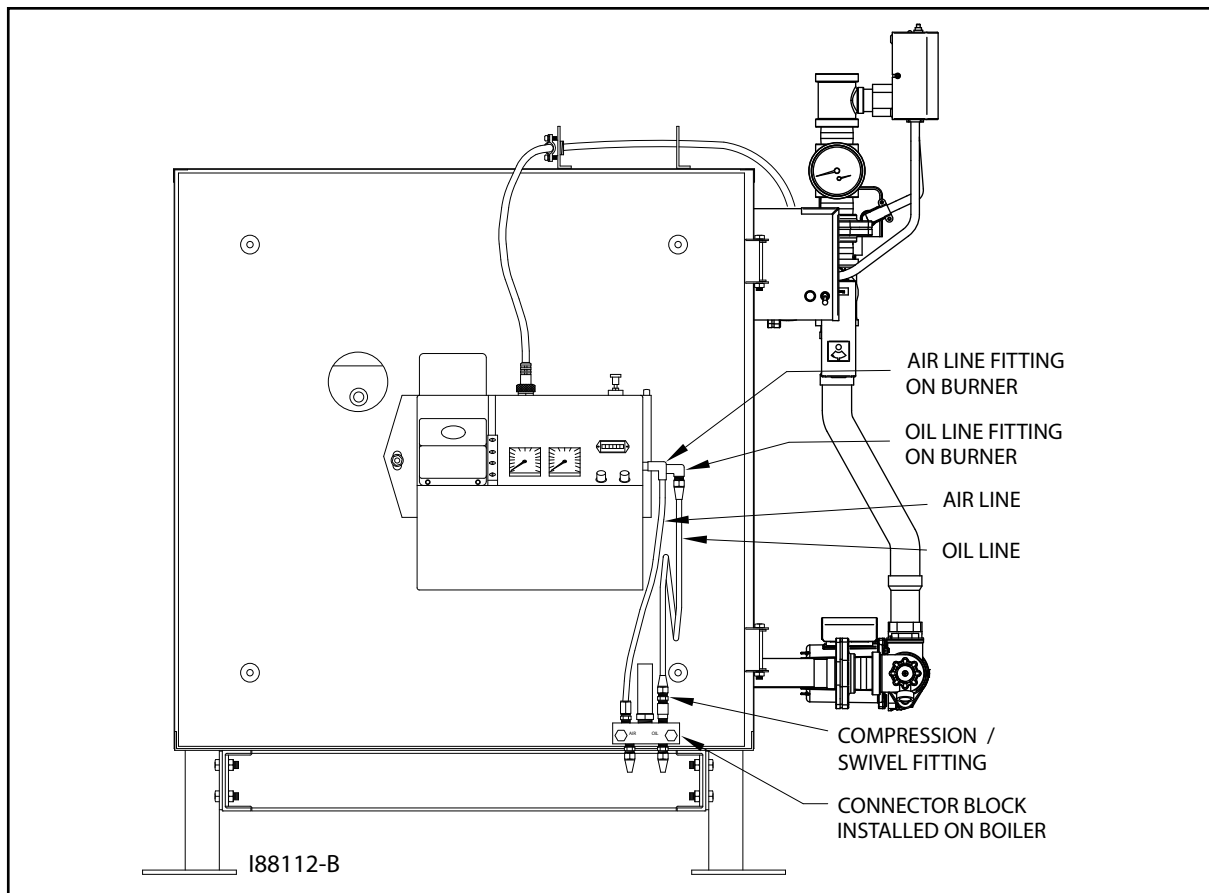

Figure 3J - Installation of Connector Block, Oil Line and Air Line (Front View)
NOTE: You may also check the positioning of the oil line according to Figure 3J on the next page which provides a larger front view of the connector block assembly.
2. Refer to Figure 3J. Push the air line tubing into the swivel fitting on the connector block until the tubing bottoms out in the fitting.